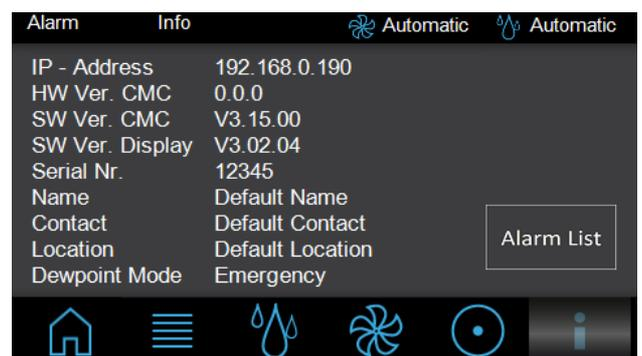

Fig. 106: "Info" screen
- Enter the serial number using the number pad keys. The serial number is displayed on the "Info" screen (fig. 106) under the "Serial No." entry.